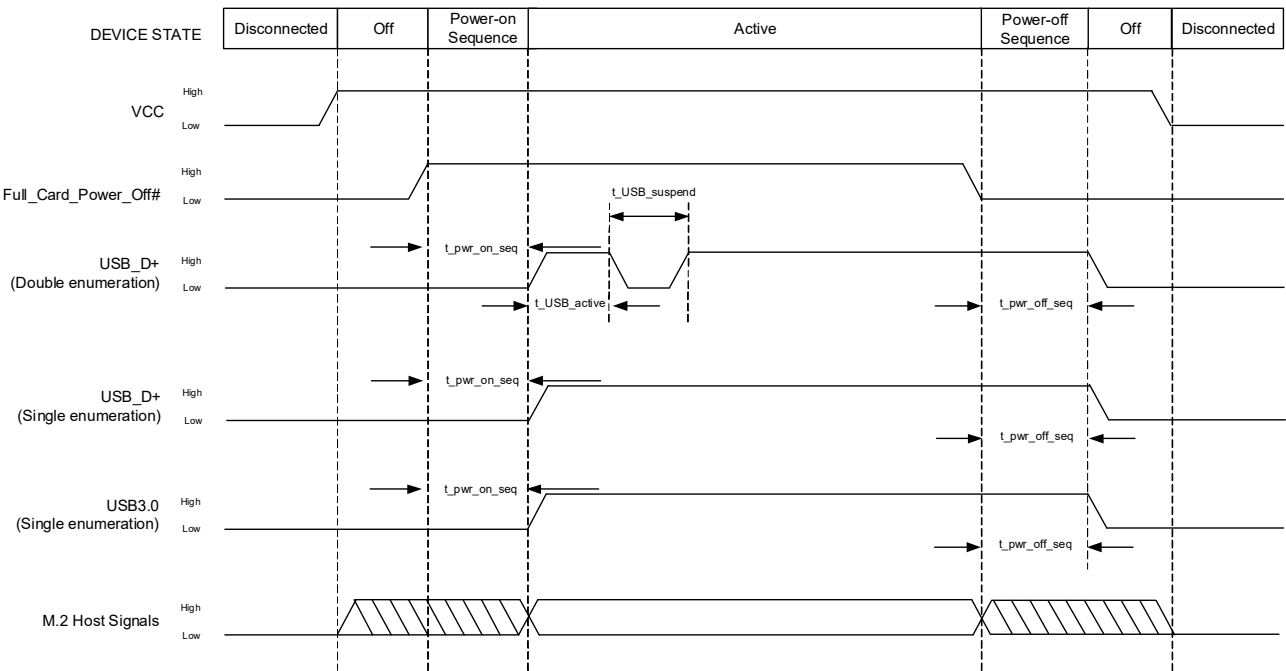

Figure 4-2: Signal Timing (Full_Card_Power_Off#, and USB Enumeration)
Figure 4-2 describes the timing sequence for powering the module on and off.
- Double enumeration — As shown in Figure 4-2: